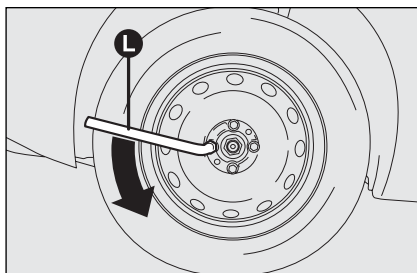

fig. 6
- ☐ using the wrench provided **L-fig. 6** loosen the fastening bolts by about one turn; if the car is fitted with alloy rims, shake the car to facilitate removing this rim from the wheel hub;